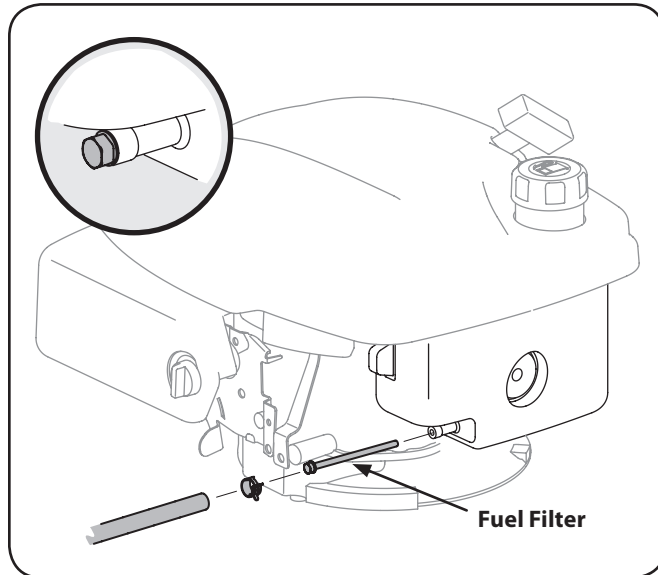

Figure 6-7
2. Remove hose clamp from fuel line and remove fuel line from tank outlet. See Figure 6-7.
4. Grasp new fuel filter from shouldered end and insert it completely to the shoulder into the tank outlet. See Figure 6-7 inset.